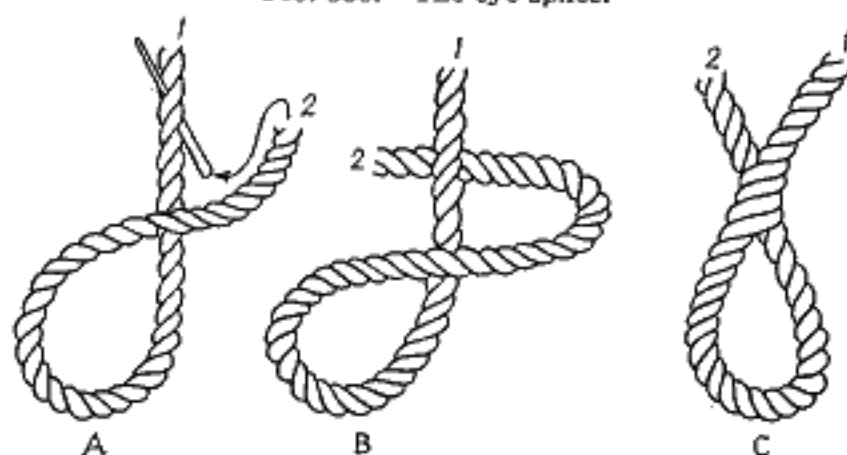

FIG. 351.—The loop splice.
1. Raise two strands of part 2 and pass part 1 through (see Fig. 351).